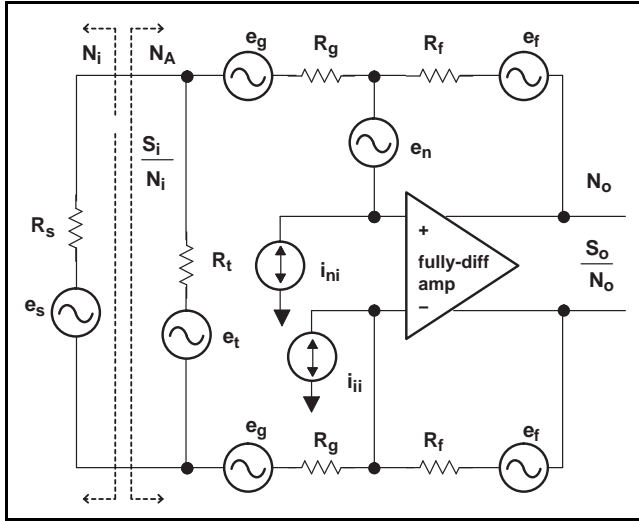

Figure 110. Noise Sources in a Fully Differential Amplifier Circuit
Noise analysis in fully differential amplifiers is analogous to noise analysis in single-ended amplifiers; the same concepts apply. Figure 110 shows a generic circuit diagram consisting of a voltage source, a termination resistor, two gain setting resistors, two feedback resistors, and a fully differential amplifier is shown, including all the relevant noise sources. From this circuit, the noise factor (F) and noise figure (NF) are calculated. The figures indicate the appropriate scaling factor for each of the noise sources in two different cases. The first case includes the termination resistor, and the